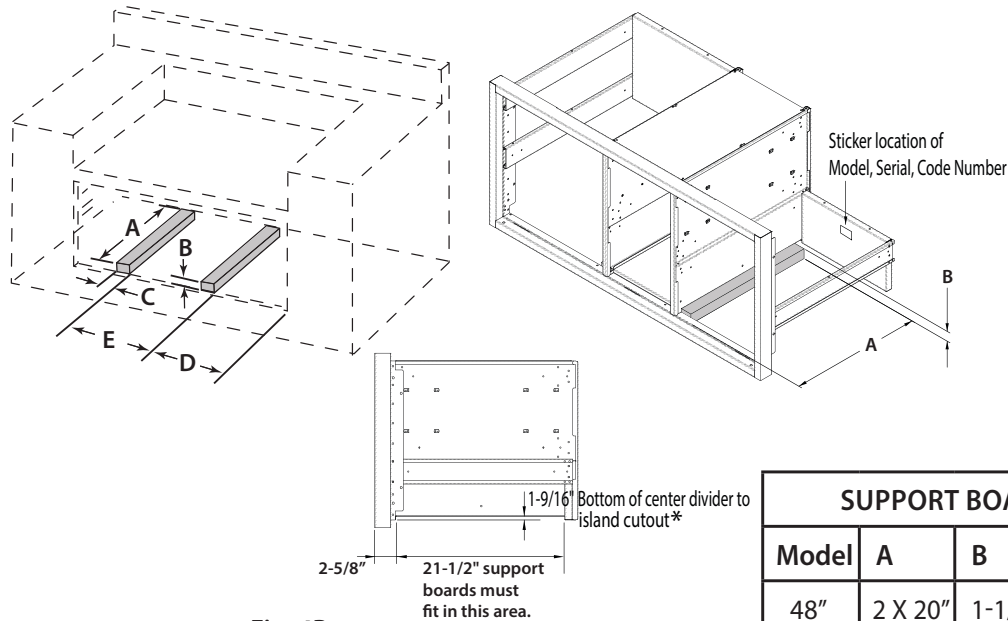

Fig. 4B
2. Place 3" X 4"s to provide support for the Access Drawers structure in the locations indicated in the figure opposite (Fig. 4B).